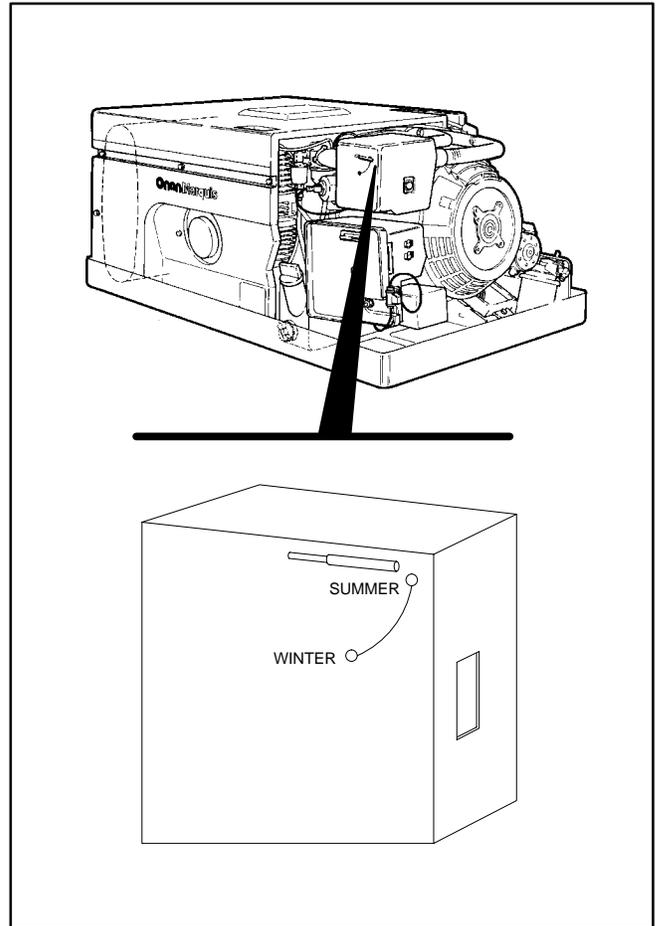

FIGURE 10. CARBURETOR PREHEATER LEVER (GASOLINE MODELS ONLY)
2. At temperatures below 40° F (4° C), push the carburetor air preheater lever down to the WINTER position (gasoline models only). The lever is located on the front of the air cleaner (Figure 10). At temperatures between 40° F (4° C) and 70° F (21° C), the preheater may be left in either position.
- At temperatures above 70° F (21° C) push the carburetor preheater lever up to the SUMMER position (gasoline models only). The lever is located on the front of the air cleaner (Figure 10).